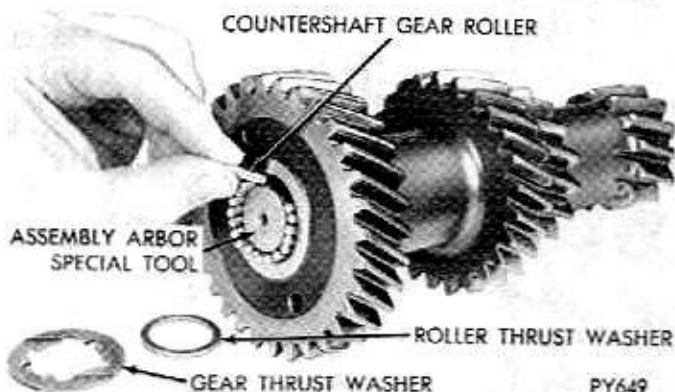

Fig. 24—Countershaft Gear—Roller Bearing Assembly
- (1) Slide assembly arbor, Tool C-4112, into countershaft gear.
- (2) Slide one roller thrust washer over arbor and into gear, followed by 22 Greased Rollers (Fig. 24).
- (3) Repeat Step 2, adding one roller thrust washer on end.
- (4) Repeat Steps 2 and 3 at other end of countershaft gear. (Total of 88 Rollers and 6 thrust washers).
- (5) Place greased front thrust washer on arbor against gear with tangs forward.